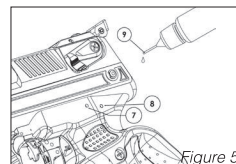

Figure 5
- 25 After every 150 shots, lubricate trigger system by dripping a few drops of oil using the tip of oiler No. 9 shown in Figure 5 through holes No. 7 and 8. When you are run out of lubrication, you may use thin, fluid and anti-corrosion lubricant that is used in pneumatic systems. Never use edible oils, thick and non-fluid oils such as grease.